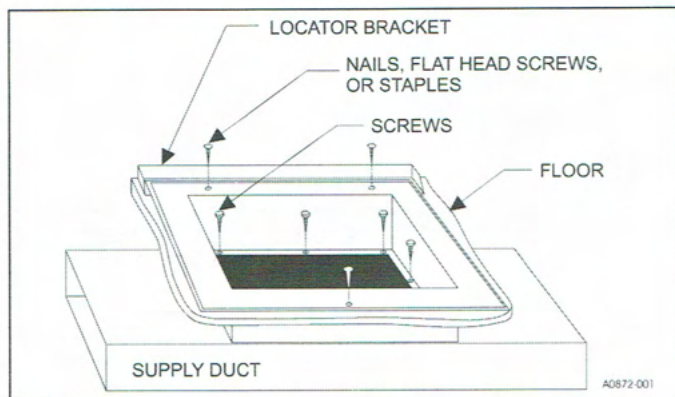

FIGURE 7: Duct Connector Screw Attachment (7990 Series)
3. Place locating bracket (supplied with the duct connector) to the back edge of the floor opening. See Figure 7.